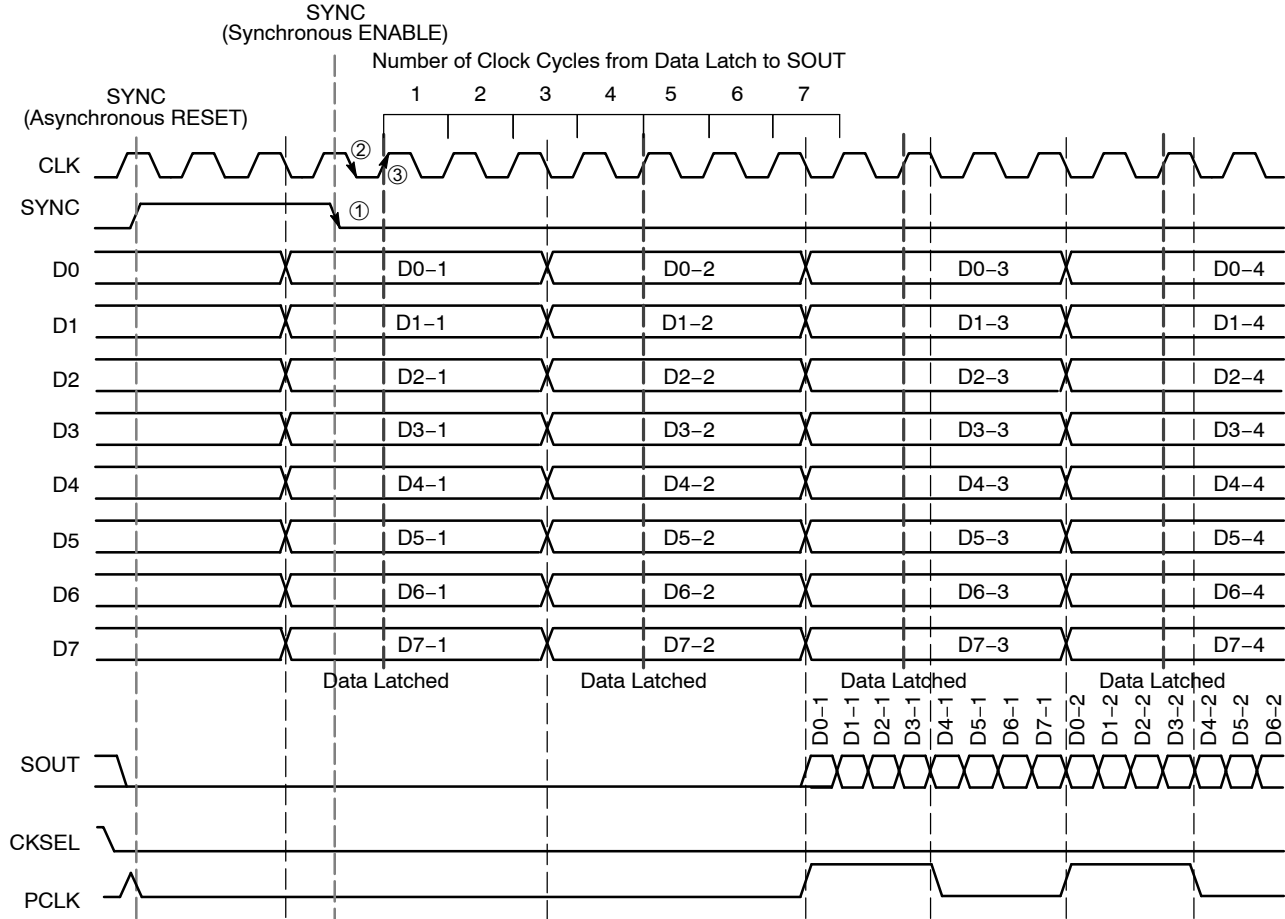

Figure 9. Timing Diagram 1:8 Parallel to Serial Conversion with CKSEL LOW and SYNC
The device also features a differential SYNC input (Pins 29 and 30), which asynchronously reset all internal flip-flops and clock circuitry on the rising edge of SYNC. The release of SYNC is a synchronous process, which ensures that no runt serial data bits are generated. The falling edge of the SYNC followed by a falling edge of CLK initiates the start of the conversion process on the next rising edge of CLK (Figures 9 and 10). As shown in the figures below, the device will start to latch the parallel input data after the a falling edge of SYNC ①, followed by the falling edge CLK ②, on the next rising of edge of CLK ③ for CKSEL LOW